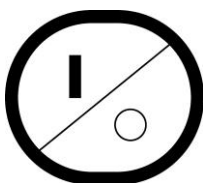

Figure No. 7
7. Install the 6 new “AA” size batteries in the battery holder, noting the polarity markings located in the battery holder. Refer to Figure No. 7.